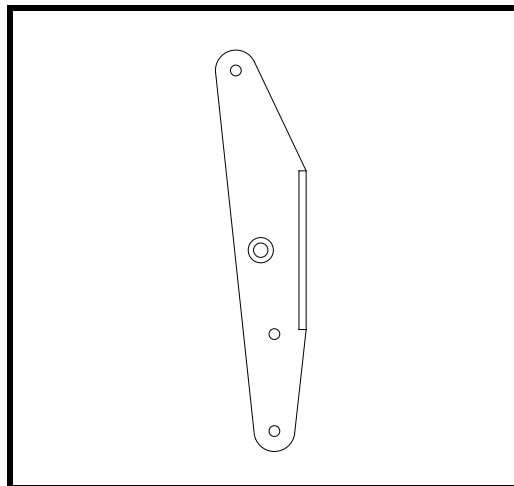

Figure 5
- ❑ Drill P/N 750 with a 5/32"Ø drill at 37mm below the hinge line. See Figure 5. Drill only one hole at this time. Insure that this hole is 14mm from the base of the hinge (see Drawing No. 750). The holes for the attachment of the arm should be parallel to the base of the hinge and in line with the lower control cable hole.